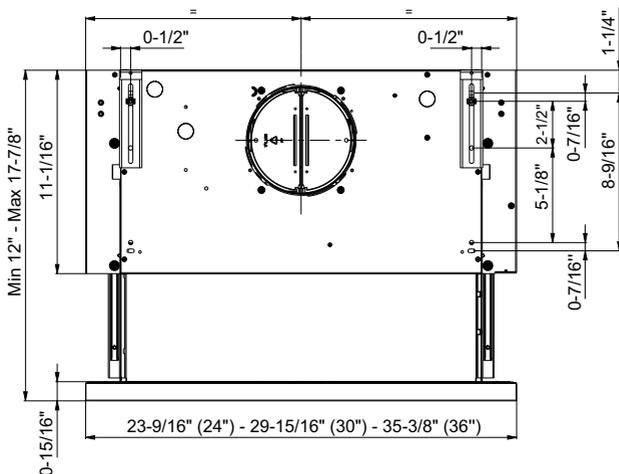

Fig.1
2. Position template B on the wall cabinet, bearing in mind the measurements indicated in Figs. 1 and 2 and the minimum distance from the cooktop.
1 - Check the measurements indicated in Figs 1 and 2 and the minimum distance from the cooktop, before installing the hood on the support shelf.